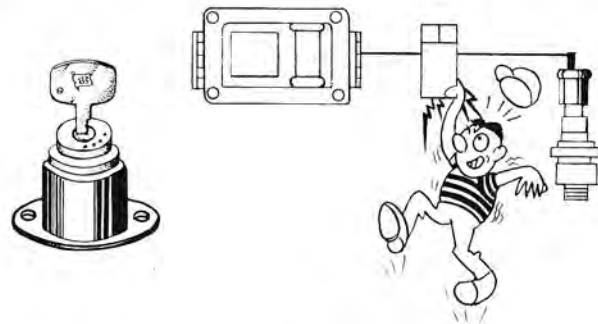

Fig. 16
5. Check to be sure that the main switch is turned off before working on the ignition system, because 400 Volt is being used in this system. (Fig. 16)